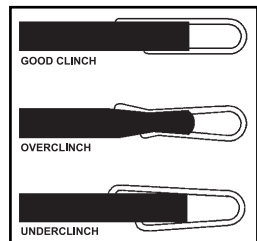

FIG. 6
- Hooks are properly sized and clinched when (Figure 6):